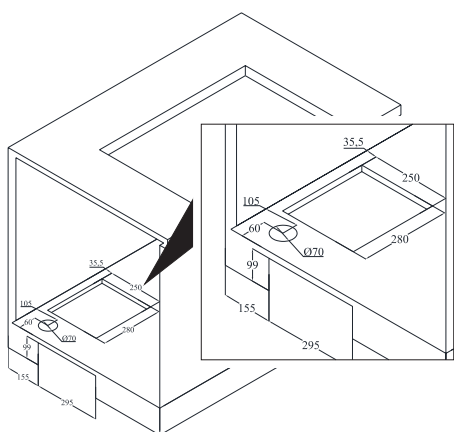

Fig. 25
6. → Prepare the mount surface for the motor box in align with the dimensions specified in the technical illustration (Fig. 25).
Observe the warnings regarding preparing the kitchen counter (Fig. 25).